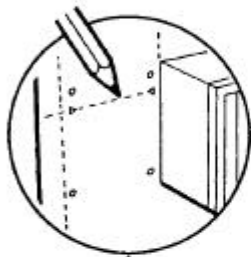

Fig. 31
5. Using the previously marked flue hole centre, mark the horizontal centre line for the flue assembly (Fig. 31).
6. Extend this line either left or right as required, to the corner of the room (Fig. 31).